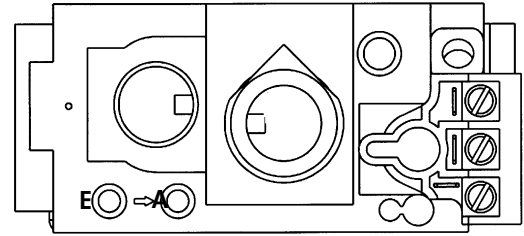

Figure 28. Pressure test points.
**Pressure Test:** Attach a manometer to the appropriate test point on the valve. See fig. 28. The gauge connections are located on the front of the valve under the On/Off/Pilot- knob. Gauge connections are identified by: